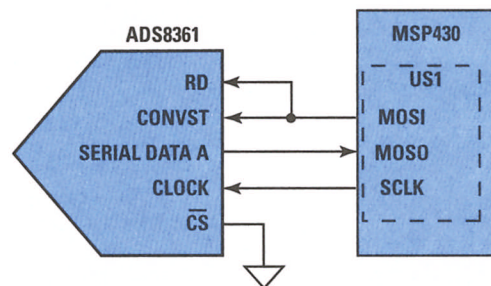

Figure 1. Hardware interface block diagram
Figure 1 The INL (integral nonlinearity) of a 16-bit string DAC can vary across 10s of codes (a). A correction step of 64 LSB (1024 of the 65,536 points) reduces the INL error to less than ± 3 LSB (b).
A simple three-wire interface is the minimum requirement to connect the eZ430-F2013 and the ADS8361EVM as shown in Figure 1. The chip select (CS) pin is grounded because only one ADC is placed on the port. If more than one device is on the bus, then chip select should be controlled by any available GPIO on the MSP430 device.
disc drives uses the configuration shown in Figure 1. A lesser number of companies have in the past or are now producing flexible-disc drives utilizing significantly different configurations. Rotating contact heads, noncontact heads, and fixed-head-per-track configurations have all been implemented. Each of these offers advantages and disadvantages over the generalized configuration shown.
Fig. 1—General configuration of flexible disc drive will have minor changes depending on whether or not it is to be IBM-compatible. Accompanying tables also may have minor additions.